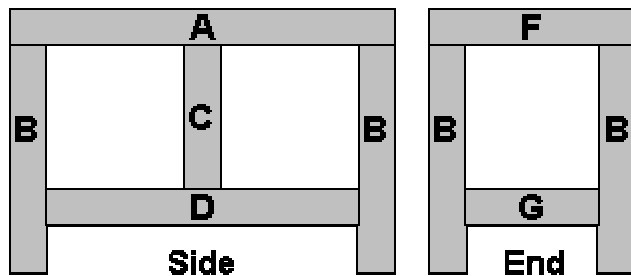

Figure 2
2. Cut the 1x4 according to the following list. Match up the part letters with Figure 2. The following symbols are used: